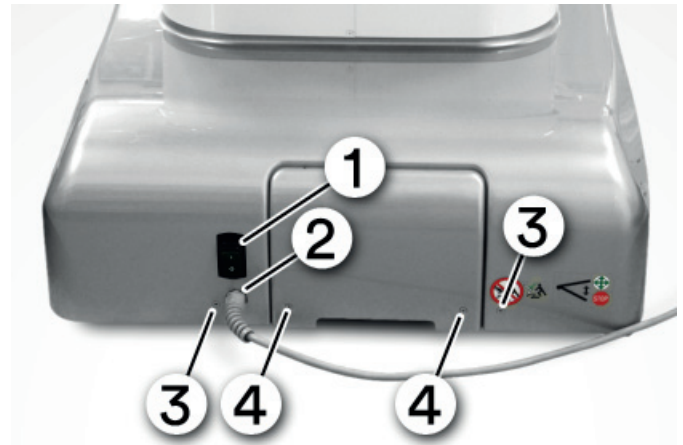

Fig. 4
- ▶ Use the supplied Allen wrench (size 2.5) to loosen and remove the attachment screws for the socket cover; see Fig. 4.
- ▶ Use the supplied Allen wrench (size 2.5) to loosen and remove the attachment screws for the rear foot cladding; see Fig. 4.